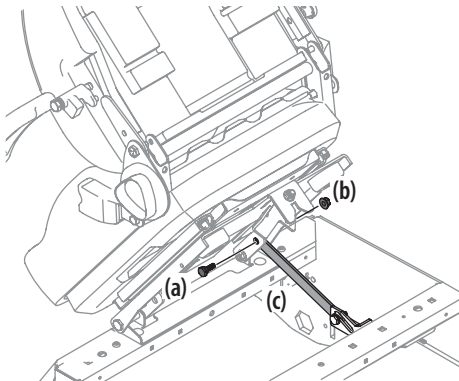

Figure 2-8
3. Remove the shoulder screw (a) and flange lock nut (b) from manual bag and install the seat lockout bracket (c) as shown in Figure 2-8.